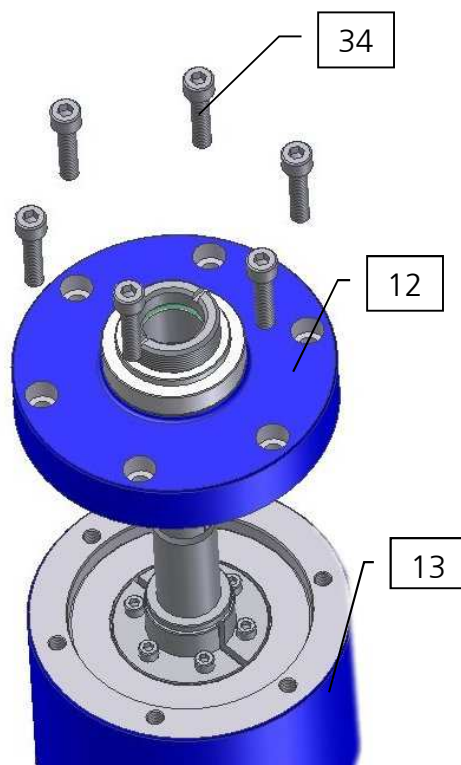

Figure 20 – Overhaul of Actuator
Remove the 6 off M8 screws retaining the Top Housing to the Bottom Housing (Figure 20, items 34, 12 and 13Fig.19 Item 13).
Fit a suitable 1/8" NPT Fitting into the port 'A' (Figure 20, item 12) in the Top Housing. Using a twisting and pulling motion, remove the Top Housing, complete assembly.